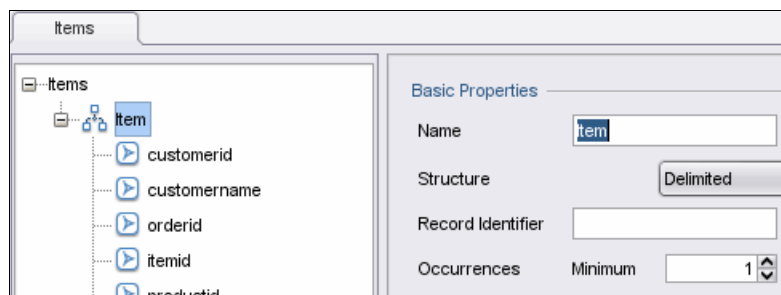

Figure 12-31 Renaming data record structure to Item
- b. In the Basic Properties panel, select Name, and replace data with Item. Refer to Figure 12-31.